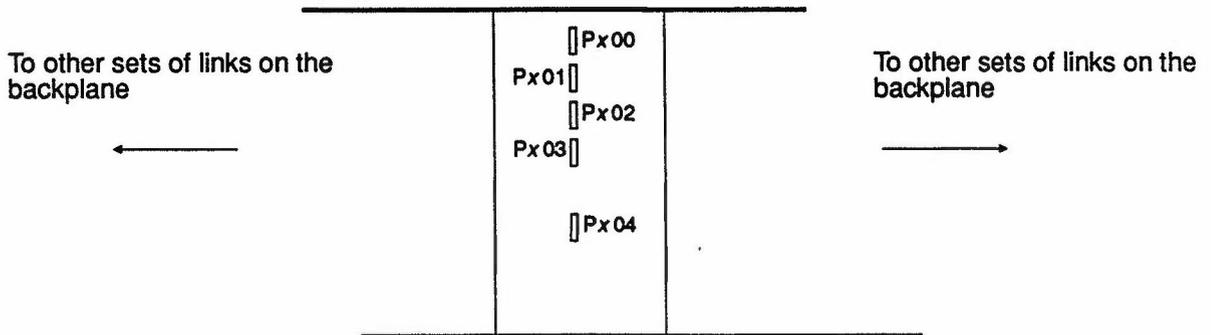

Figure 2.7: Daisy-chain links on the x^{th} position of the 3/160 VMEbus backplane
- On the VME backplane, remove all five links Px00 to Px04 from the backplane, where x is the slot number of the slot in which you have just installed the PME SCSI-1/100 board (see figure 2.7 below)